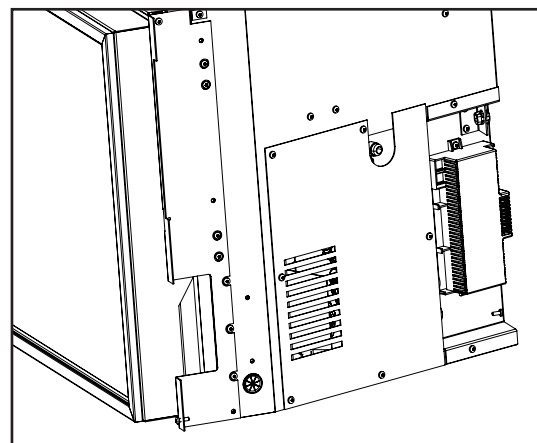

Figure 34: Gas connection location
1. The adjustment screw can be reached through the front of the unit using a 10 inch long blade head screw driver (see Figure 34 for location on valve).